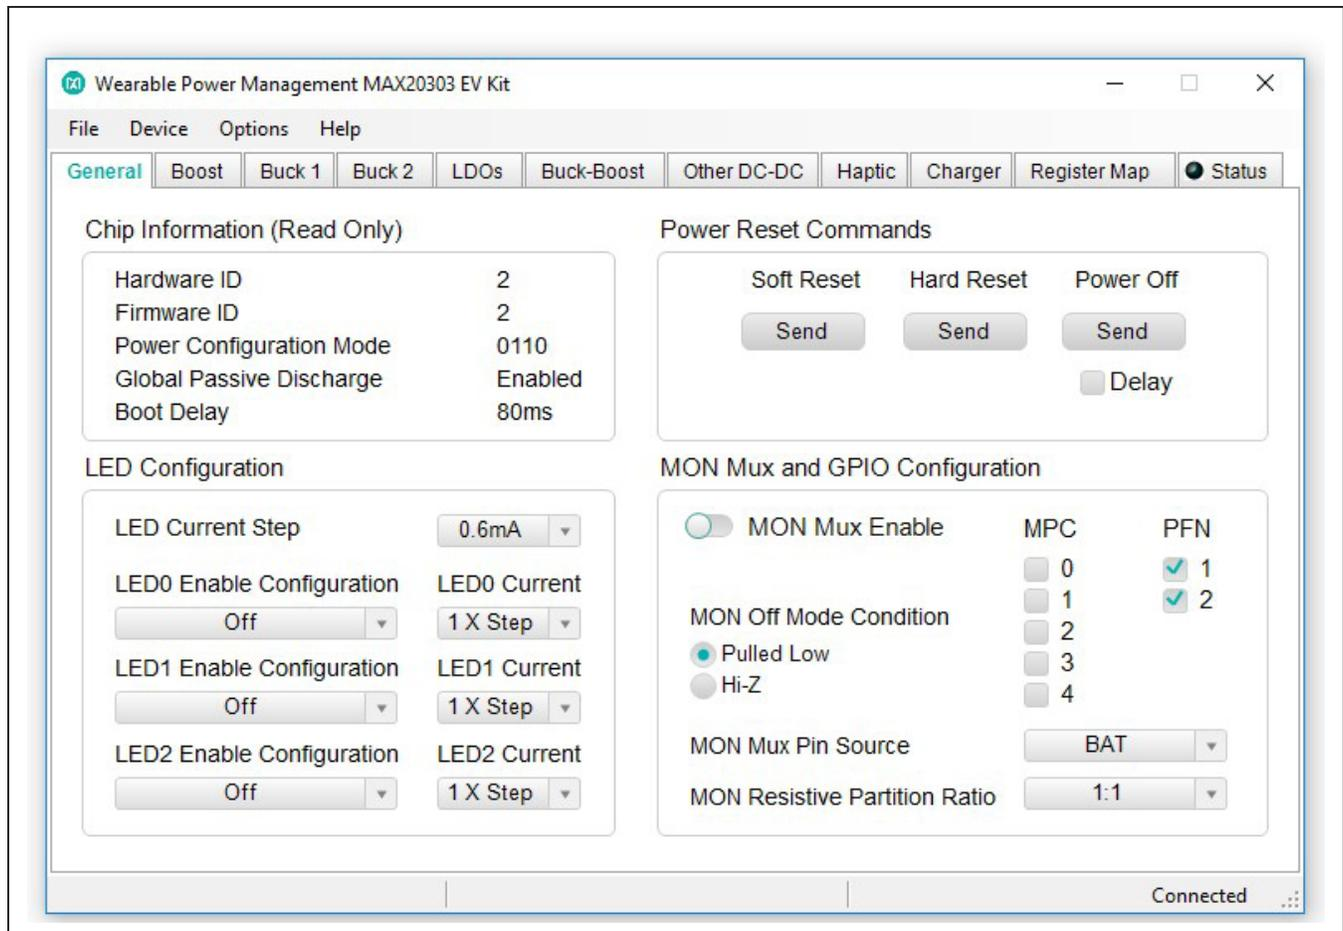

Figure 2. MAX20303 Connected Status
- 8) Press the PB1 (\overline{KIN}) button until the device enters ON mode. The GUI then shows **Connected** and the registers are read and displayed (Figure 2).